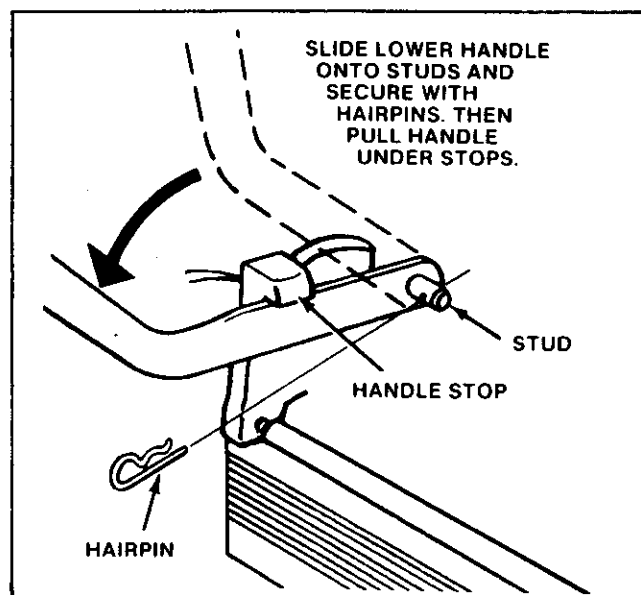

FIGURE 3
3. Pull lower handle back until it snaps into place under the handle stops. (See Figure 3.)